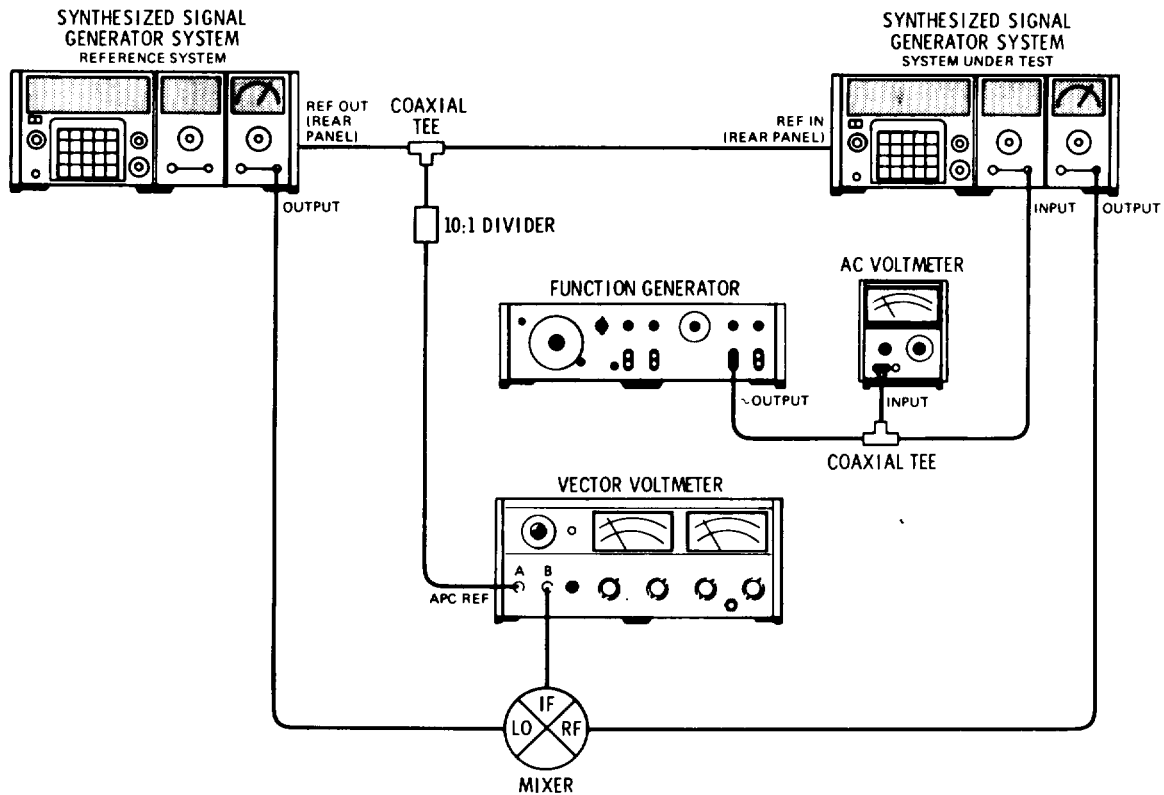

Figure 4-12. Incidental Phase Modulation Test Setup
3. Connect the equipment as shown in Figure 4-12.